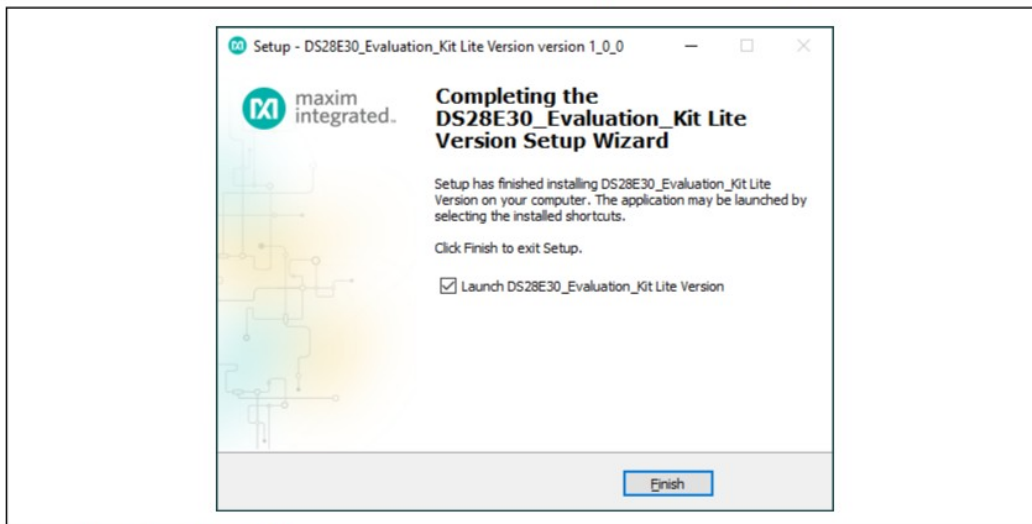

Figure 5. Run Software After Installation
6. Select the Launch DS28E30\_Evaluation\_Kit Lite Version check box, then click Finish to open the program (Figure 5).